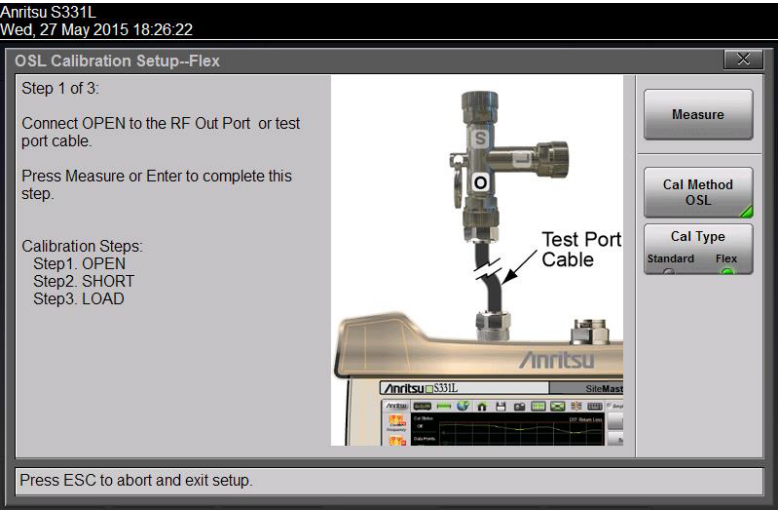

Figure 7-2. Calibration Setup OSL Cal
5. Press **Measure** and follow the on-screen instructions (Figure 7-2 on page 7-6).